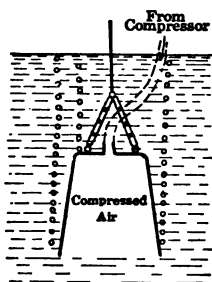

FIG. 55. — Diving bell supplied with compressed air.
54. In the modern diving bell the workmen are supplied with air forced down through a tube connected with a compressor at the surface. The air is supplied fast enough to force all the water out of the bell and keep a stream of bubbles flowing out from its lower edges. See Fig. 55.